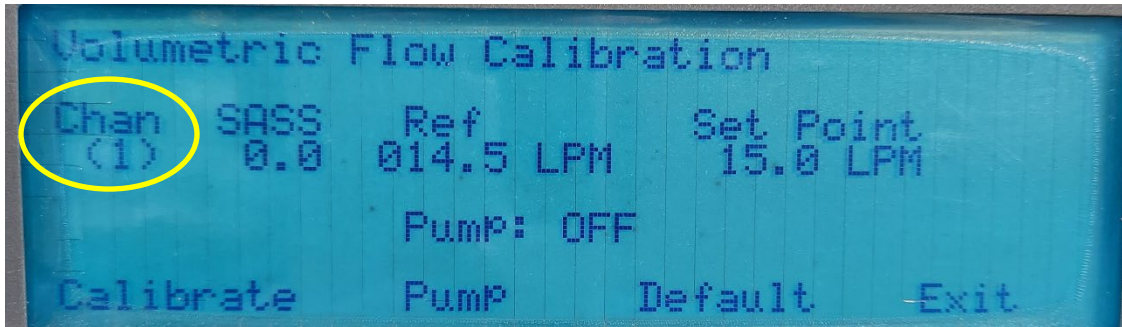

Figure 22: Flow Calibration
**3.4.4** Using the left to right arrow keys, place the cursor (blinking square) on the **Channel** section and use the Up arrow to select the channel (1, 2, or 3) that needs flow calibration (Figure 22)